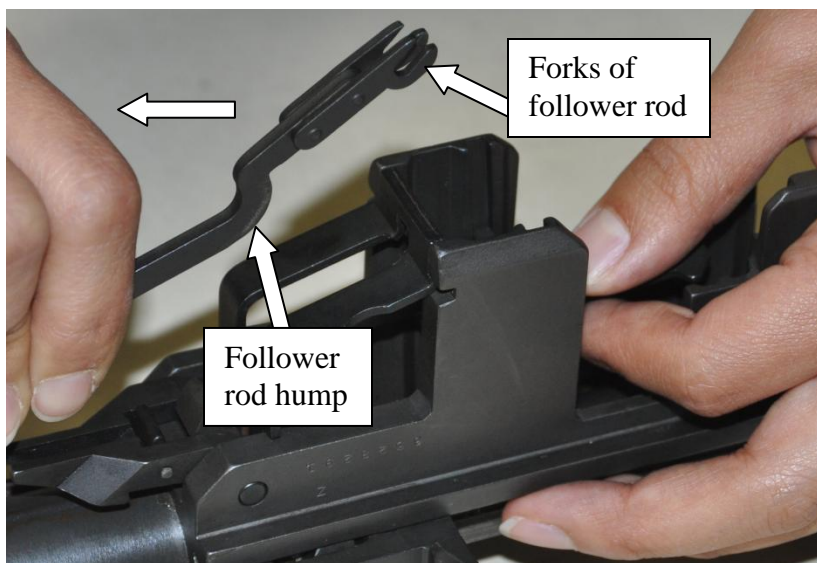
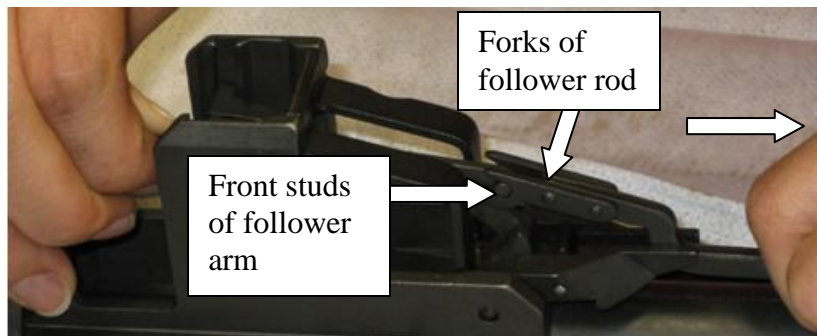

Figure 48. Orientation of follower rod
Figure 49. Insertion of operating rod spring
- 9) Insert the loose end of the operating rod spring into the operating rod. Grasp the follower rod, making sure that its hump is down/toward the barrel (fig 48). Compress the operating rod spring, and engage the forks of the follower rod with the front studs of the follower arm (fig 49). You may have to raise the follower assembly to do this.